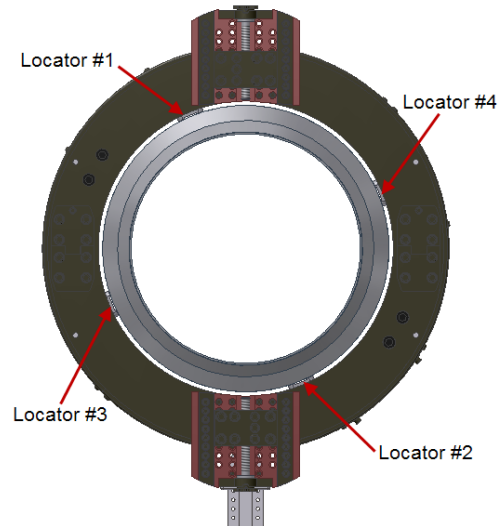

Figure 9
2. Lightly tighten two adjustable locator pads directly across from each other (locators 1 and 2 in Fig. 9), just enough to secure the Clamshell while trying to keep it centered on the work piece.
Lightly tighten two more locator pads that are directly across from each other and close to 90 degrees away from the first set of locators (locators 3 and 4 in Fig. 9). DO NOT TIGHTEN down completely until the Clamshell has been both squared and centered to the pipe.
1. Squaring: Place a square on the back of the Clamshell, directly in line with a locator, hold the square against the housing and the work piece and square the machine to the pipe at four locations around the pipe (see Fig 9).